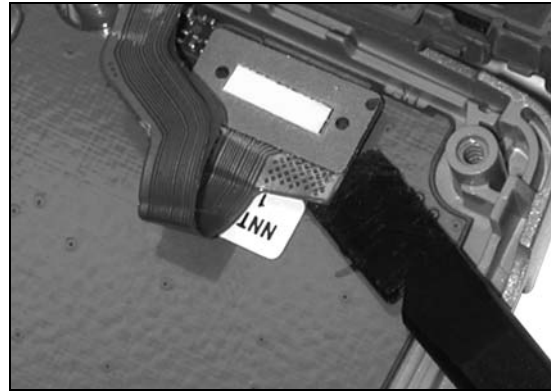

Figure 7-8.
3. Separate Flex-Connector from Controller Board. Remove board and Main Keypad (see Figure 7-8).